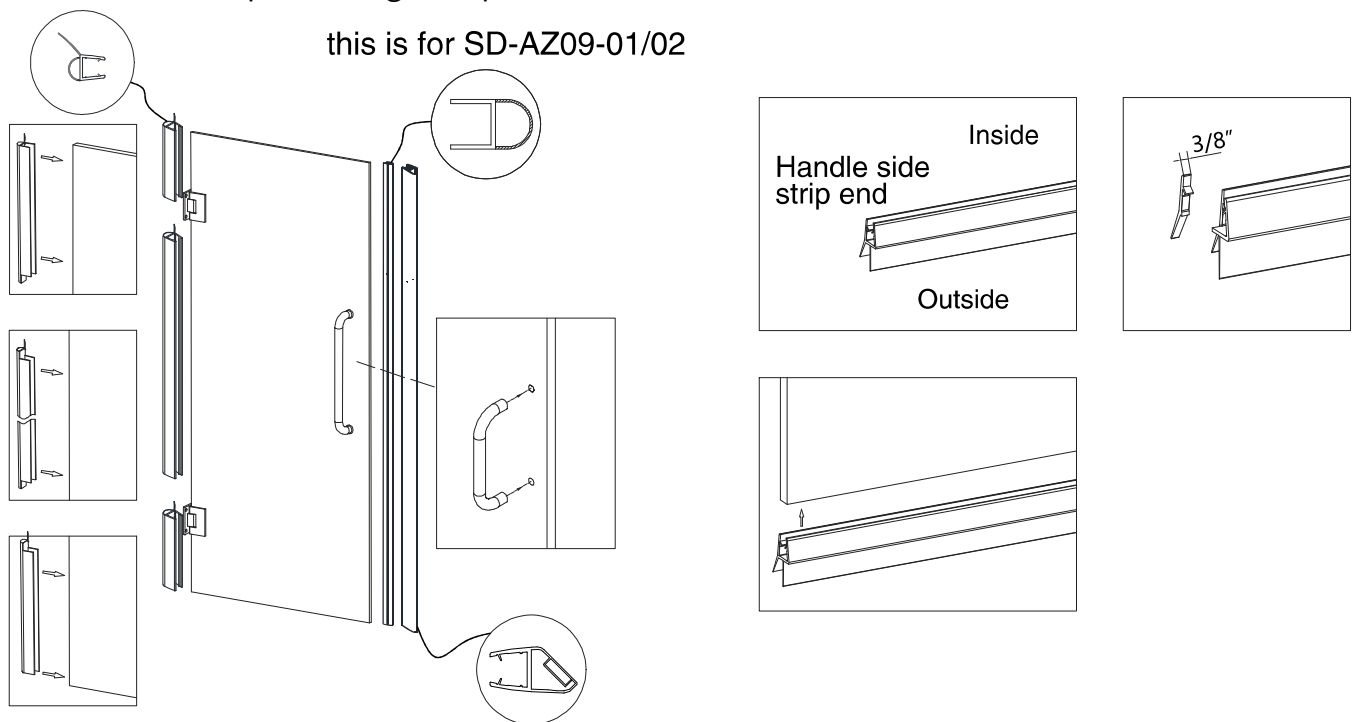

Fig. 3
2. Precisely measure the lower portion of the Glass Panel (01) from the Side Anti-water Strip (05) to the vertical edge on the side with the Handle(02). Using this measurement, cut the Bottom Water proof Strip (06) to size and create a 3/8" notch in the interior side of the Bottom Water
ATTENTION: When the door is shut, the Handle side of the Glass Door should be tight to the Water proof Strip (06) along the vertical edge. Refer to Figure 3 for details.